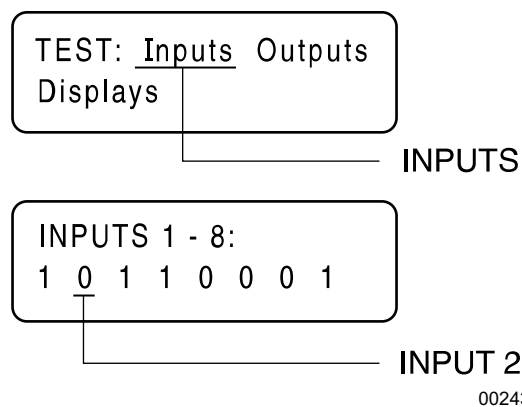

Figure 4-47. The Input Screens
- a. See Figure 4-47. Digital input 2 is wire 86 from the low oil pressure switch to the board.